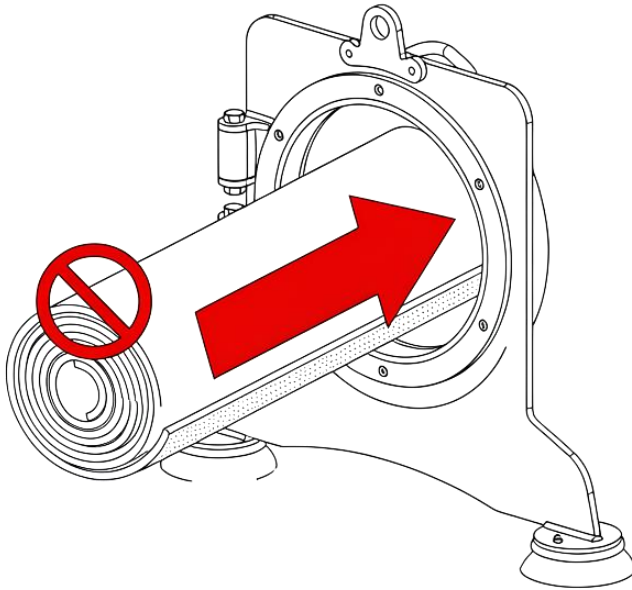
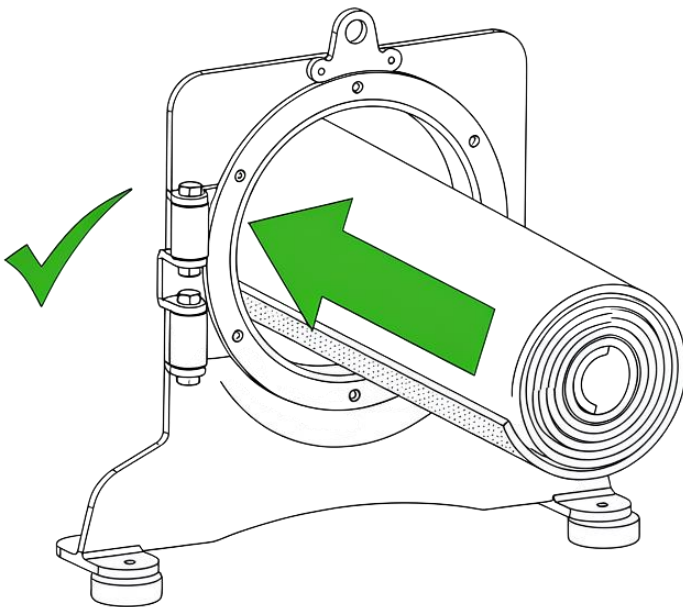
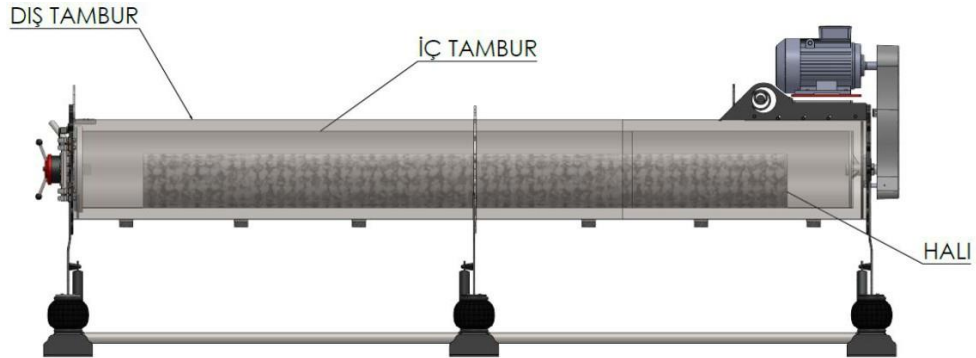

Figure.2b Incorrect Placement
Figure.2a Correct Placement
Figure.2c Centering the carpet on the machine.
- The carpet should be placed in the machine in the correct direction, centered from the front and back (See: Figure 2a, Figure 2b, Figure 2c, Figure 2d).
The schematic view of the correct placement of the carpet inside the machine when the machine is operated in the counter-clockwise direction is shown in Figure 2a, and the schematic view of the incorrect placement is shown in Figure 2b. The centering of the carpet inside the machine is shown in Figure 2c. All malfunctions and damages resulting from non-compliance with the machine usage methods shown in the figures are outside the scope of the warranty.